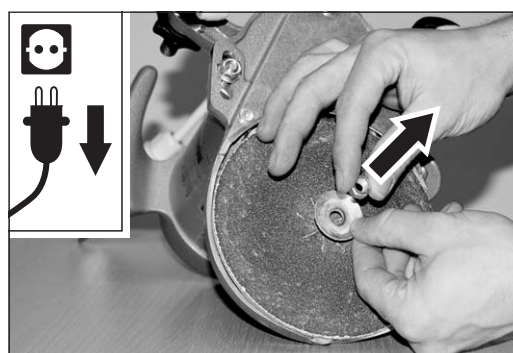

Fig. 19 Remove the nut and the paper tensioning disc from the sanding plate.
- 4 Rotate the hexagonal nut all the way out. Remove the paper tensioning disc and the sanding disc from the sanding plate and put these parts aside (fig. 19).